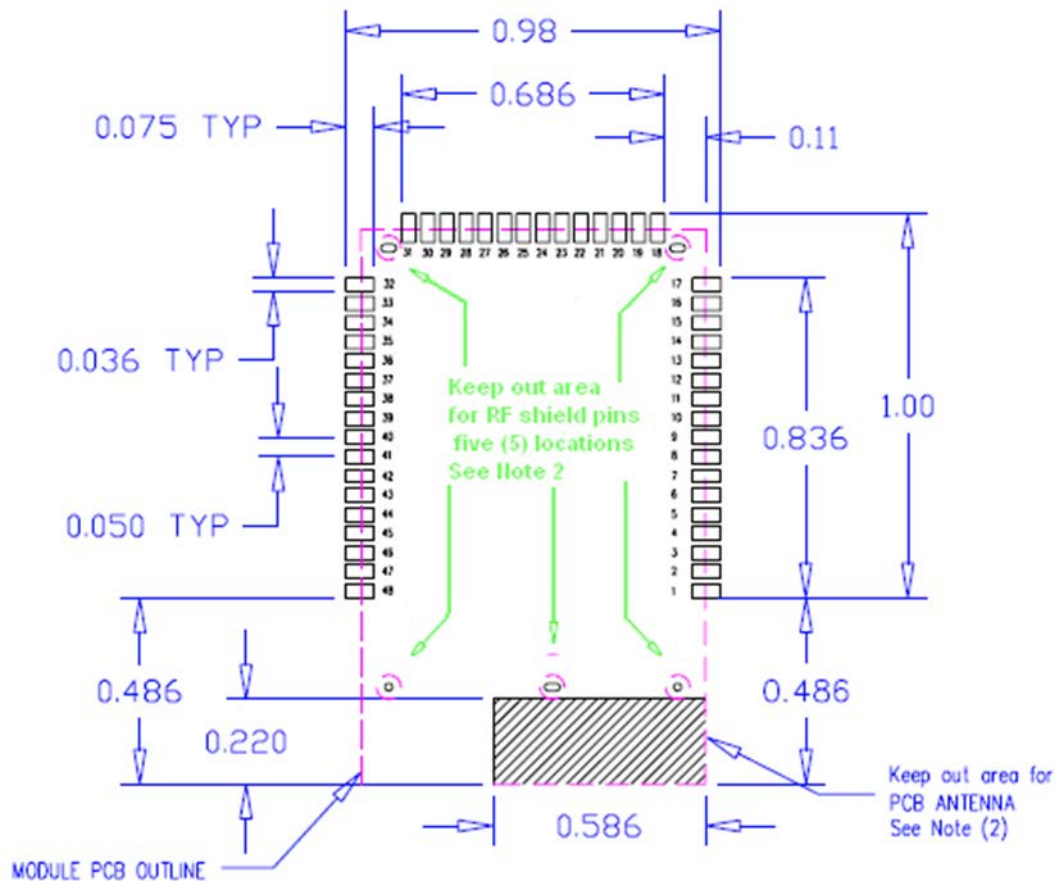

Figure 5-1: GS1500M Module Recommended PCB Footprint (dimensions are in inches)
In addition to the guidelines in Figure 5-1, note the following suggestions:
- The PCB antenna keep out area, as shown in Figure 5-1, must be adhered to. Ground plane on the base board should be kept further away if possible, and should not fully enclose the PCB antenna.